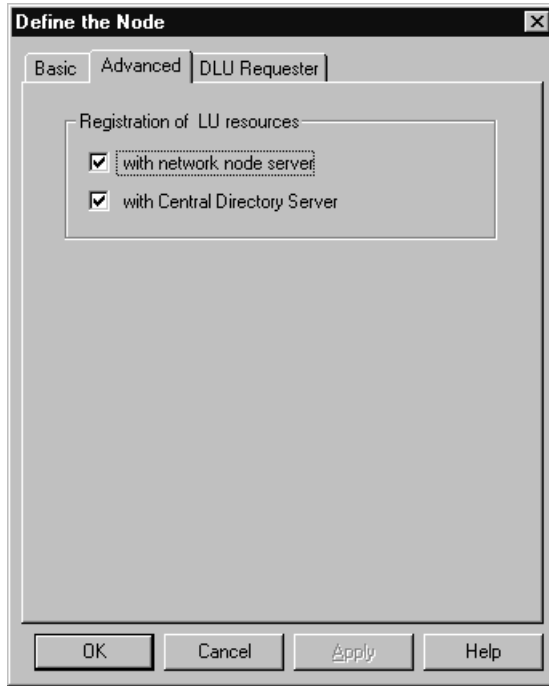

Figure 95. Define the node: advanced page
- 4 On the Advanced page, in the Registration of LU resources box, select **with network node server** and **with Central Directory Server** as shown in Figure 95.